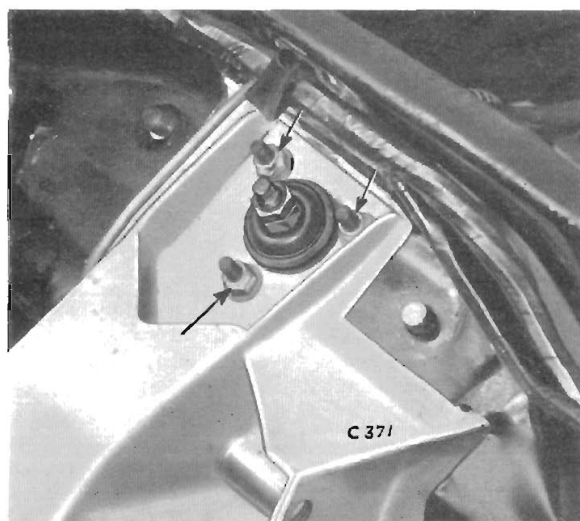
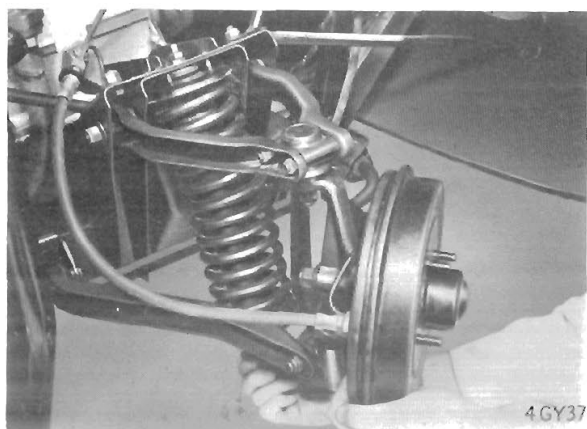

Fig. 26. Spring and damper attachments to chassis sub-frame
Fig. 27. Removing spring and damper assembly from front suspension
5. Remove the three nuts (4) and washers (6) that secure the upper spring pan (7) to the chassis sub-frame (see Fig. 26).
6. Remove the nut (18), plain washers (17) and (15) and bolt (14) from the damper lower attachment eye.
7. Support the brake drum assembly and withdraw the road spring assembly, Fig. 27.